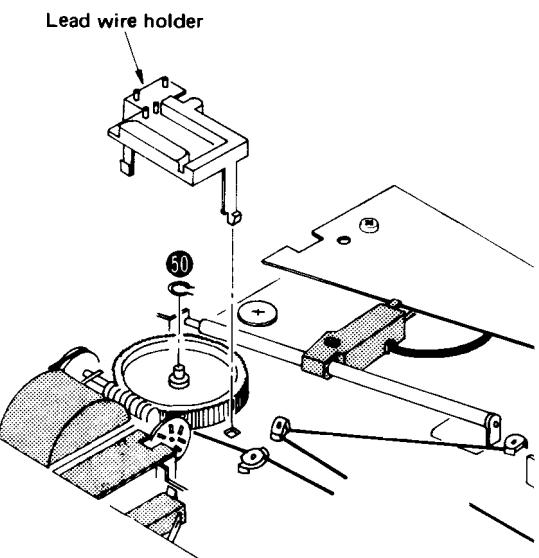

Fig. 23
2. Remove the lead wire holder. (Fig. 23)
3. Remove the C-ring of the arm drive wheel and remove the drive wheel. (Fig. 23 : 50)